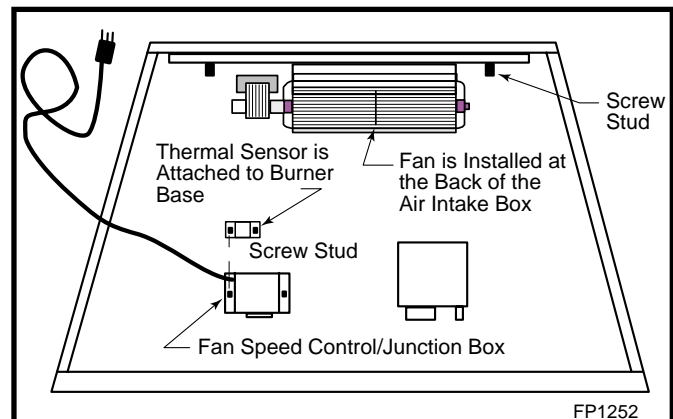

Fig. 3 Fan location.
5. Remove the fan mounting nuts (2 nuts). (Fig. 3)